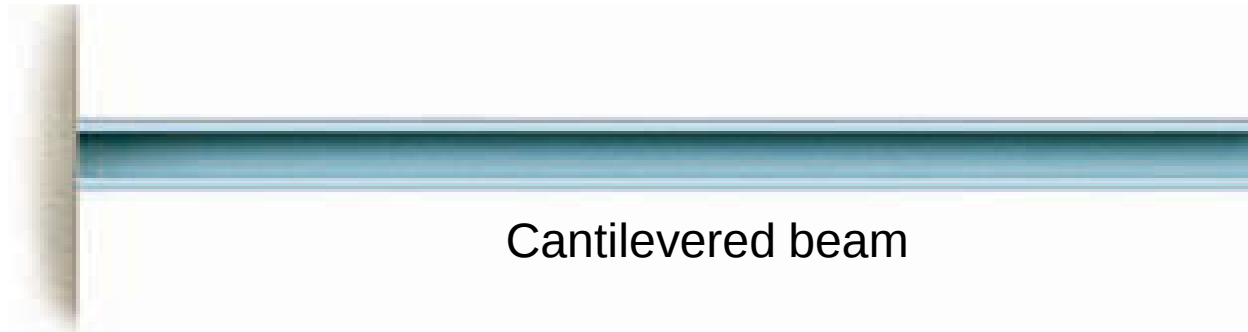

Fig. 6–1
- Section the beam at each distance x , and draw the free-body diagram of one of the segments. Be sure V and M are shown acting in their positive sense, in accordance with the sign convention given in Fig. 6–3.
Example 1 Draw the shear and moment diagrams for the beam shown in Fig. 6–4a.
Example 2: Draw the shear and moment diagrams for the beam shown in Fig. 6–5a.